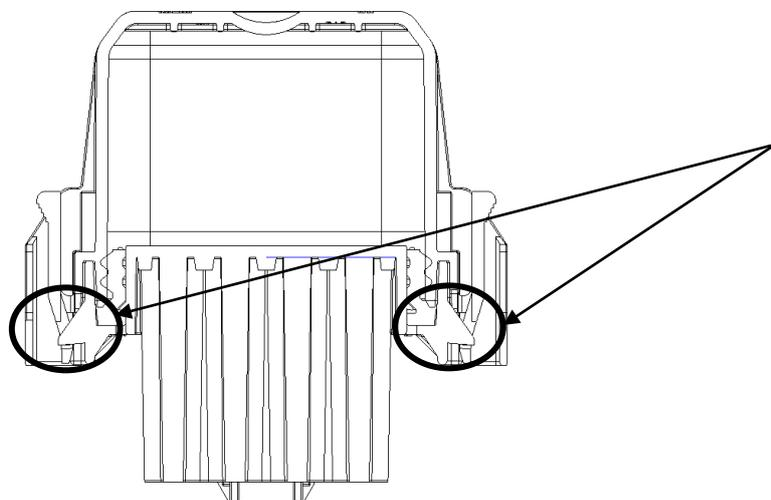

Figure 15
*Ensure both snaps are locked. See Fig. 15.